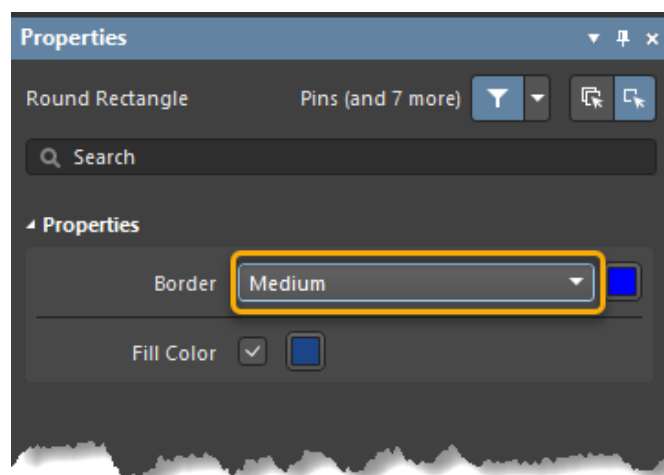

Figure 20. Rounded Rectangle Properties
30. Hit the **Tab** key to open its *Properties* panel. Change the *Border* to **Medium** and select the *Border* and *Fill* color of your choice, as shown in Figure 20 below.